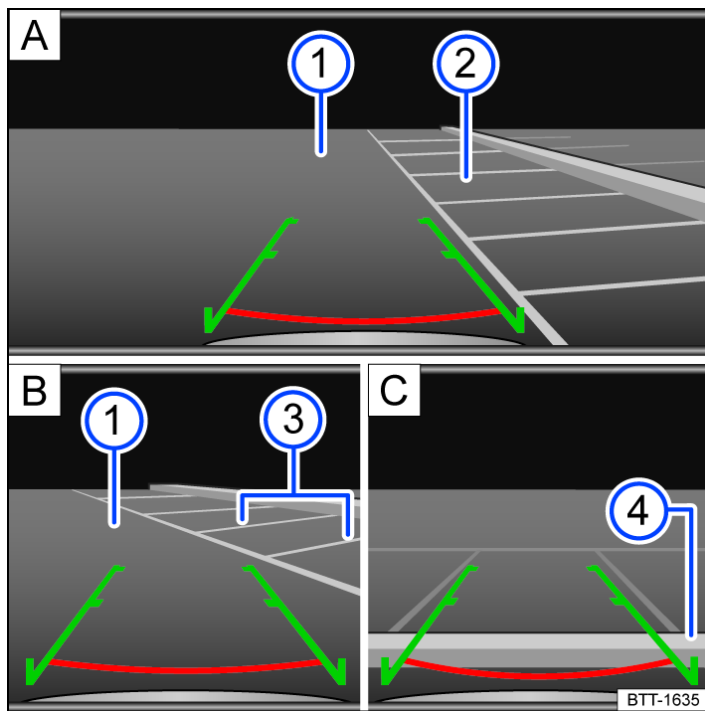

Fig. 1 Infotainment system: parking using the rear view camera system.
- Position the vehicle in front of the parking space → Fig. 1 **A** 2.